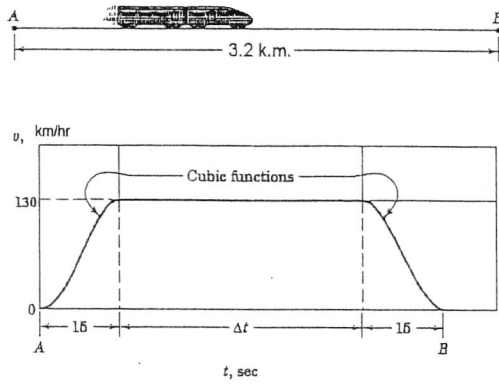

Fig. Q.6
6. The preliminary design for a rapid transit system calls for the train velocity to vary with time as shown in the plot as the train runs the 3.2 km between stations A and B as shown in Fig. Q.6. The slopes of the cubic transition curves (which are form a $+bt+ct^2+dt^3$) are zero at the end points. Determine the total run time t between the stations and the maximum acceleration. 11